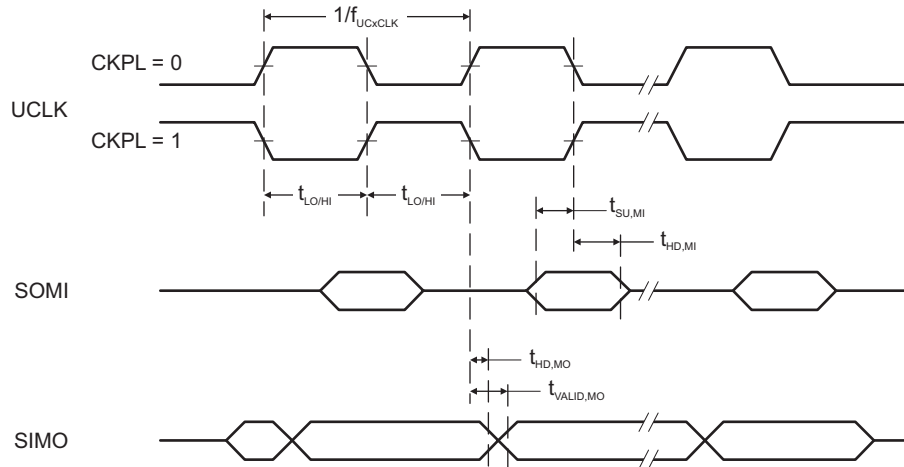
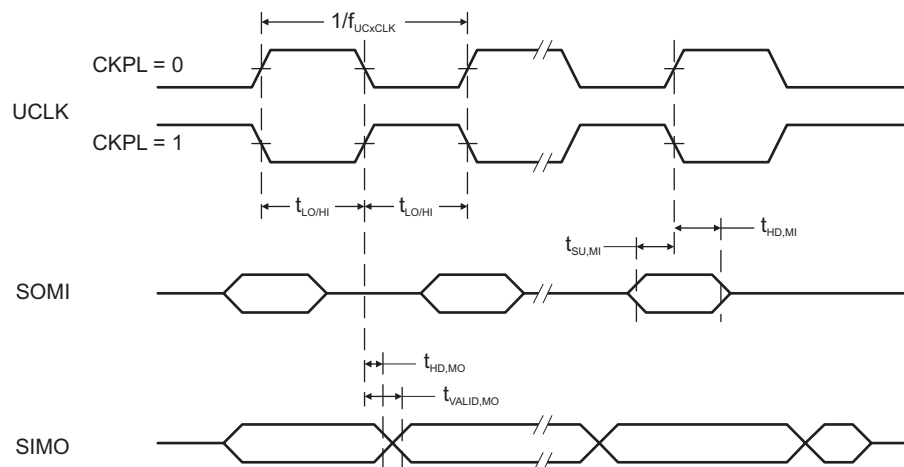

Figure 5-11. SPI Master Mode, CKPH = 0
Figure 5-12. SPI Master Mode, CKPH = 1
(see Figure 5-11 and )
(2) Specifies the time to drive the next valid data to the SIMO output after the output changing UCLK clock edge. See the timing diagrams in Figure 5-11 and Figure 5-12.
(3) Specifies how long data on the SIMO output is valid after the output changing UCLK clock edge. Negative values indicate that the data on the SIMO output can become invalid before the output changing clock edge observed on UCLK. See the timing diagrams in Figure 5-11 and Figure 5-12.